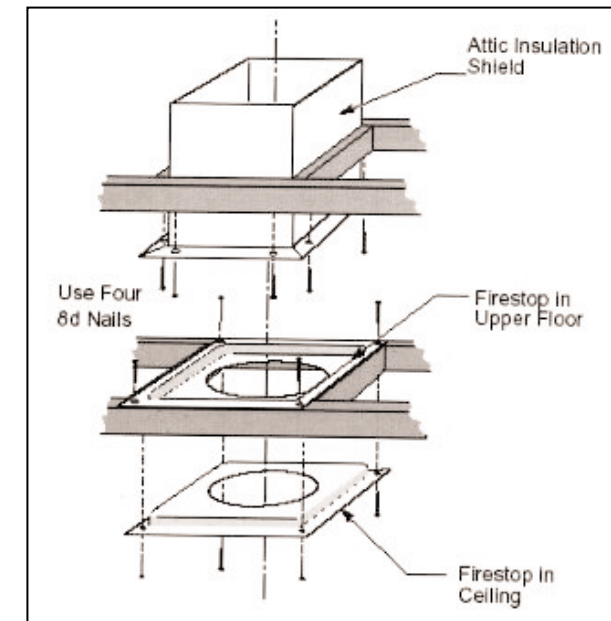

Fig 15. Install firestops and attic insulation shield.
6. Install firestop(s) and Attic Insulation Shield as needed. (Fig. 15) If there is a room above ceiling level, a firestop must be installed on both the bottom and top sides of the ceiling joists. If an attic is above ceiling level, an attic insulation shield must be installed.
7. Install the appropriate roof support and flashing, making certain that the upper flange of the flashing base is below the shingles. (Fig. 15)